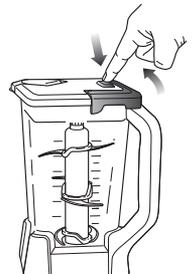

Fig. 9
- 16 For thicker consistencies, first remove the lid by pressing the release button and pulling the lid handle up to a 90-degree angle to lift lid off the pitcher. Then, carefully remove the Stacked Blade Assembly, gripping it by the top of the shaft. Place Stacked Blade Assembly away from the work area to avoid accidental contact. Finally, empty contents from the pitcher. (Fig. 9)